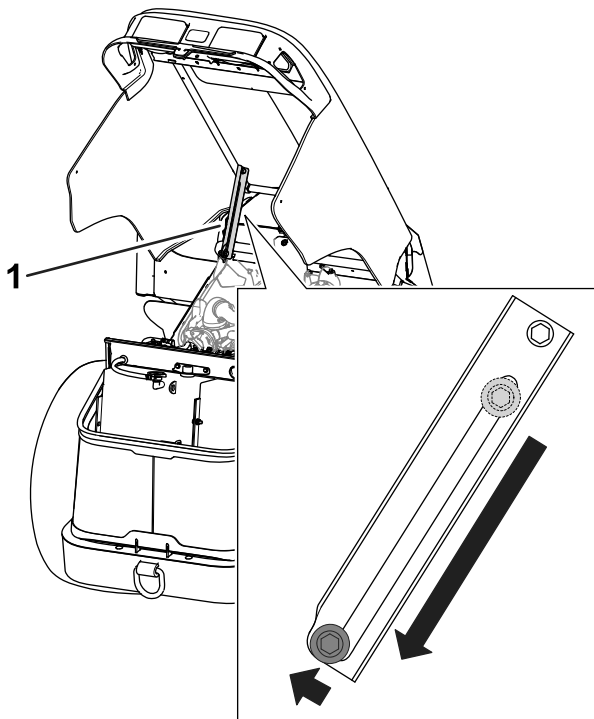

Figure 69
3. Ensure that the hood-prop bolt is in the prop detent to hold the hood in a raised position (Figure 69).